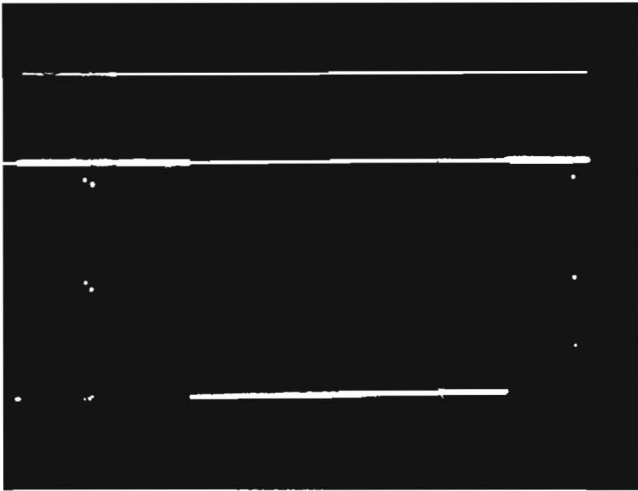
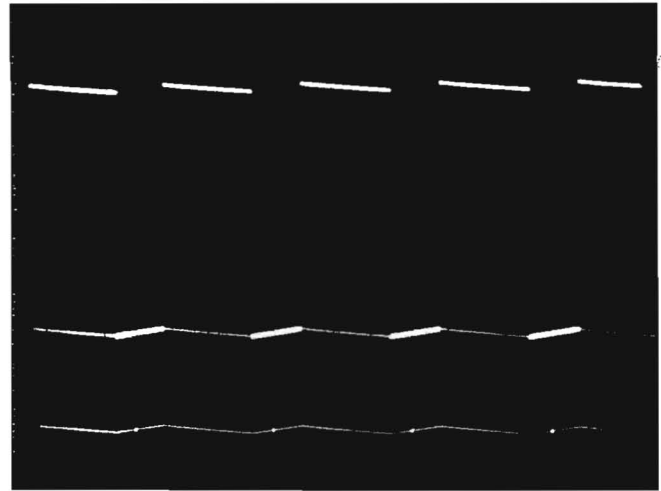

Fig. 6 Field rate squarewave available from the 147 and 148 test signal generators.
Fig. 7 Tilt in field rate squarewave due to 0.1 sec RC coupling time constant causes Field Time Distortion.
Tektronix has developed a "field rate squarewave" with composite sync pulses added. This is in the new 147 and 148 test generators and is shown in Fig. 6. This is not a true squarewave because of the sync and blanking pulses. It will exhibit the same sensitivity to distortion as a true squarewave of 60 Hz (50 Hz in the 148, designed for 625/50 standards). Fig. 7 shows a tilt due to a 0.1 second RC coupling time constant.
*This photo was taken using the 0.1 sec RC coupling, same as Fig. 7 and 8.